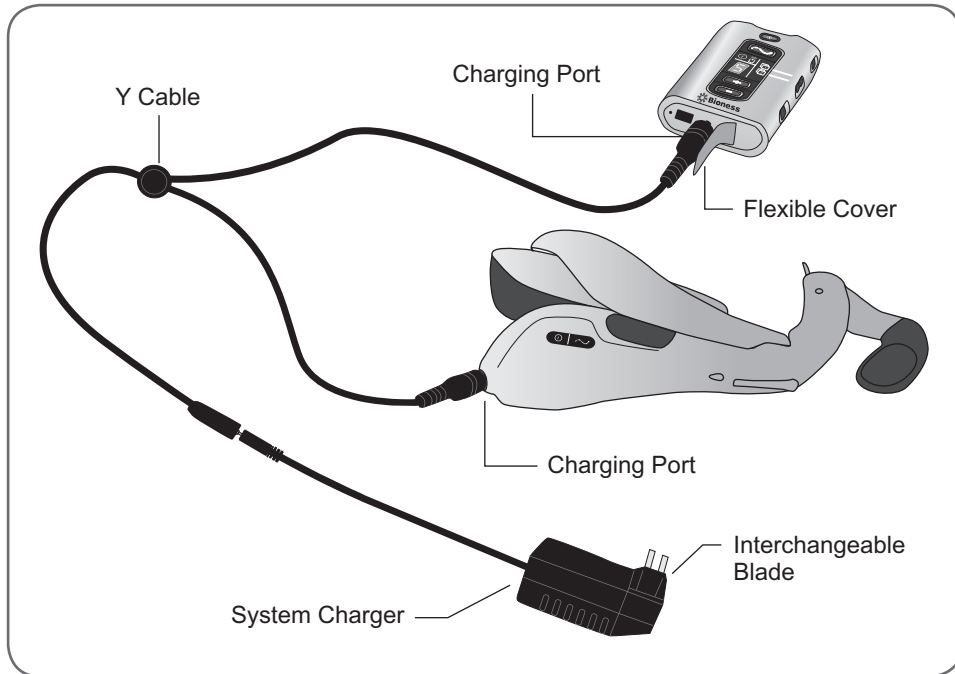

Figure 8-3: Charging Setup
3. Connect the Y Cable to the System Charger. Connect the end of the Y Cable, with the 2 cables, to the charging ports of the Orthosis and Control Unit. The Control Unit charging port is under the flexible cover. See Figure 8-3.